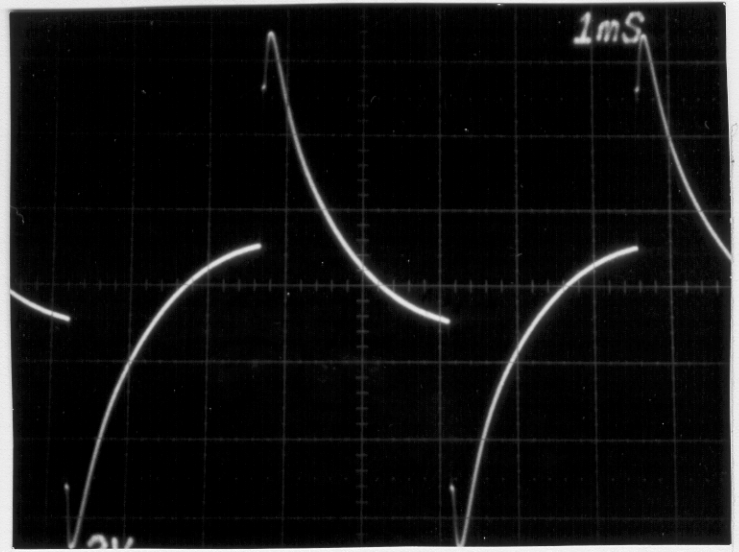

Fig. 2 Boost2 and LEVEL on 10 (foot switch ON)
6. Press the BOOST switch on the RF2. The front panel-BOOST LED should turn ON. Compare output to FIG 2. Press the BOOST switch OFF. The BOOST LED should turn off.